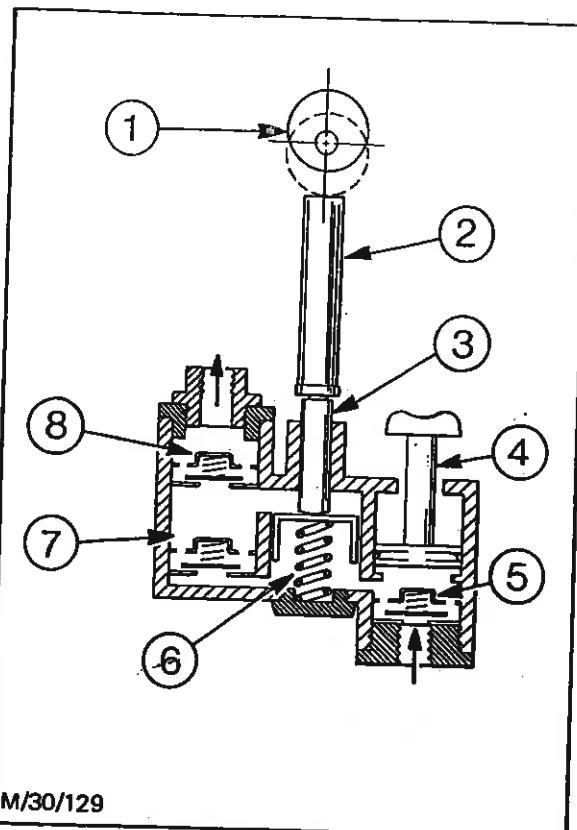

Fig. 3 - High Pressure Pump Shown in Diagrammatic Form
**Operation of High Pressure Pump - Refer to Figs. 3 and 4**